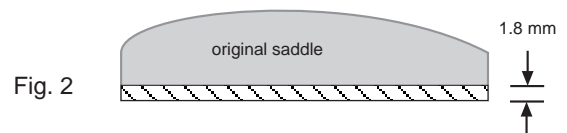

Fig. 2
6. Bring the saddle to the right height by reducing it about the thickness of the pickup. Attention: The lower side of the saddle must be absolutely flat. (Fig. 2).